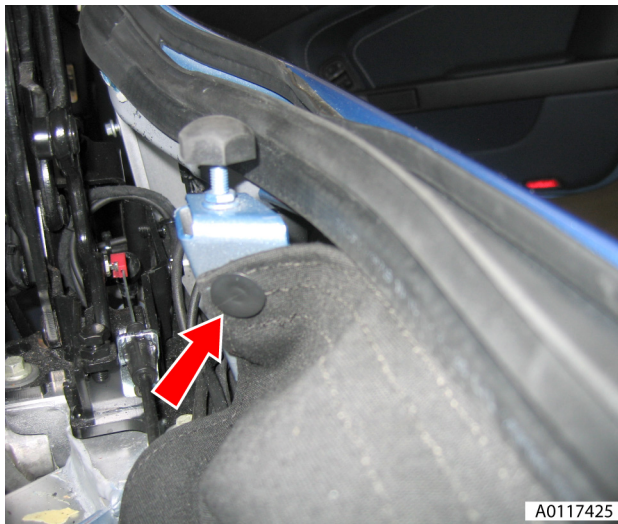

Fig. 18
35. Remove trim clip and release tonneau lining stiffening rod (see Fig. 18).